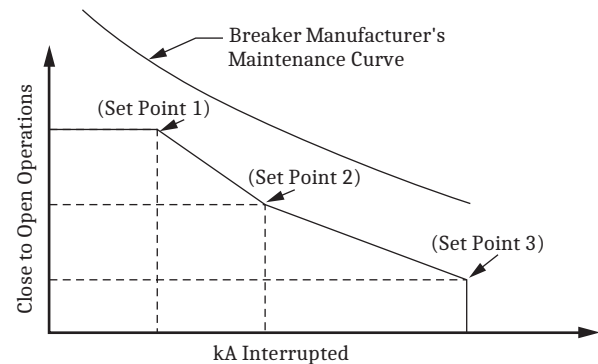

Figure 30 Breaker Contact Wear Curve and Settings
- Every time the breaker trips, the relay integrates interrupted current. When the result of this integration exceeds the threshold set by the breaker wear curve (Figure 30), the relay can alarm via an output contact or the optional front-panel display. With this information, you can schedule breaker maintenance in a timely, economical fashion.